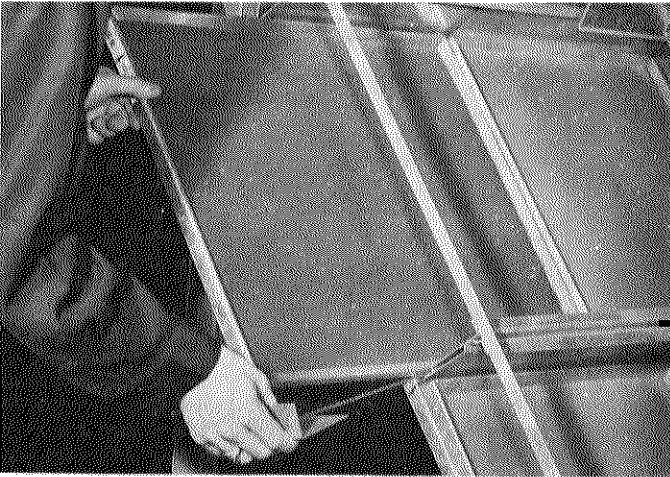

FIGURE 116
- 1 - Remove access panel from the damper/filter cabinet to expose banks of filters. Grasp the bracket on chain at bottom of each bank. Simply pull chain and bring out filters. Refer to Figure 116.